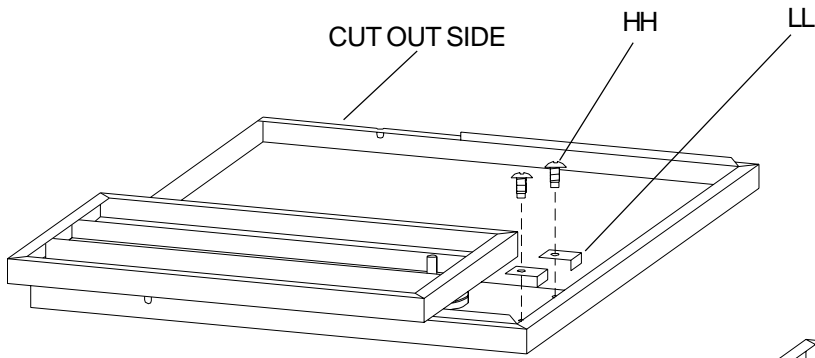

FIGURE 8
Slide the mouse pad into the corner of the slide out shelf (the one without the cut out) on the side away from the cut outs, so that it is tucked under the shelf flange (**FIGURE 8**). The mouse pad can be attached to either the right or left side of the shelf. Secure in place using screws (HH) and brackets as shown in **Figure 8**. **Figure 9** shows how the mounting bracket is clamped under the shelf flange and the brackets will sit on top of the shelf flange once secured in place.